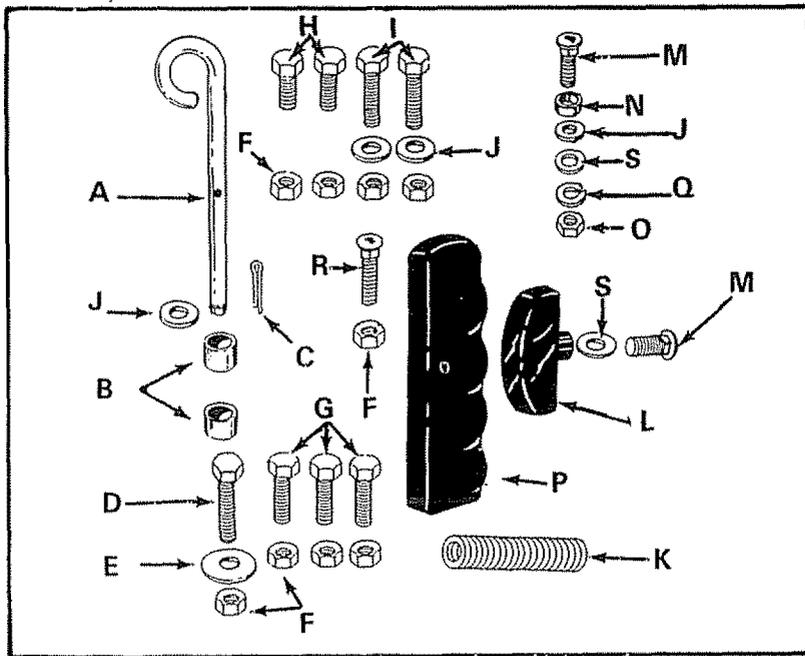

FIGURE 1
Your lawnsweeper carton and inner pack parts carton contains parts as shown in the figure below. The hardware package contains two separate packages, see figures 1 and 2 on page 3. Identify all parts and layout as shown in the figure below and figures 1 and 2.
**CONTENTS OF HARDWARE PACK: (Figure 1). Sweeper Housing Assembly**
- A (1) Hitch Pin
- B (2) Spacers 1" Dia. x 3/4" Long
- C (1) Cotter Pin 1/8" x 3/4" Long
- D (1) Hex Bolt 3/8-16 x 1-1/2" Long
- E (1) Flat Washer 17/32" x 1-1/2" x 1/8"
- F (9) Hex Lock Nuts 3/8-16 Thread
- G (3) Hex Bolts 3/8-16 x 1" Long
- H (2) Hex Bolts 3/8-16 x 3/4" Long
- I (2) Hex Bolts 3/8-16 x 1-1/4" Long
- J (4) Flat Washers 3/8" Std.
Refer to carton contents figure on page 2 and figure 1 on page 3 for parts and hardware needed to assemble sweeper housing.